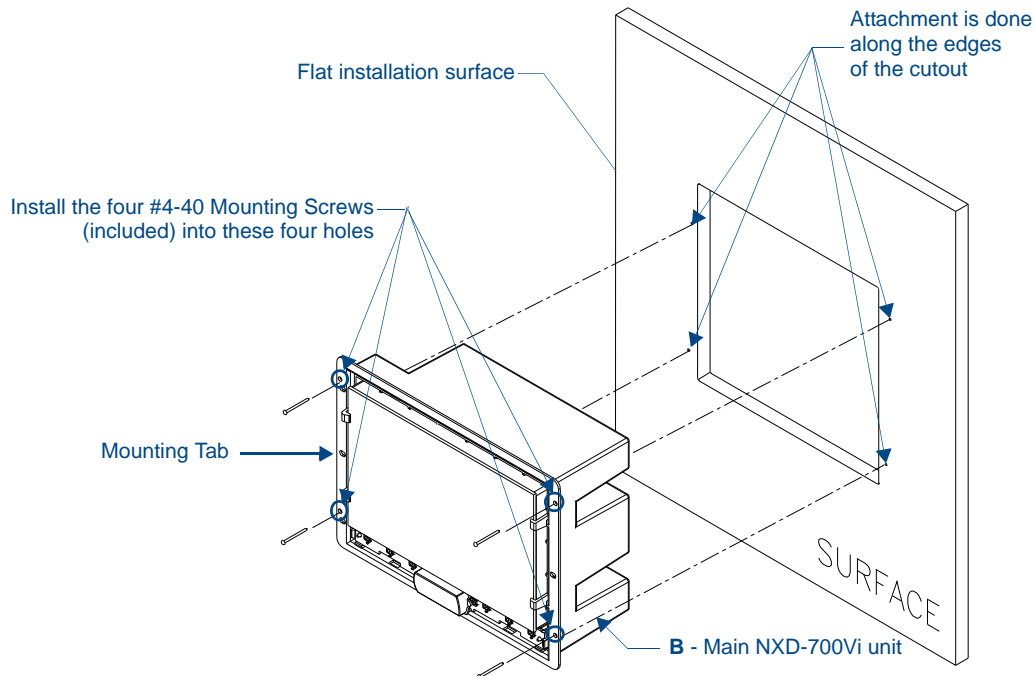

FIG. 16 Wall Mount panel installation configuration for flat surfaces
3. Remove the Faceplate/bezel (**A** in FIG. 16) from the main NXD unit (**B** in FIG. 16) by gripping the faceplate and pulling with gentle outward force.
9. Insert and secure four #4-40 Mounting Screws (included) into their corresponding holes located along the sides of the NXD-700Vi (using a grounded Phillips-head screwdriver) until the unit is secure and flush against the wall (FIG. 16).
10. Place the Faceplate/Trim Ring assembly (A in FIG. 16) back onto the main unit (B in FIG. 16). *Make sure to align the Microphone, Light, and PIR Motion sensor locations to their respective openings on the front bezel/faceplate.*